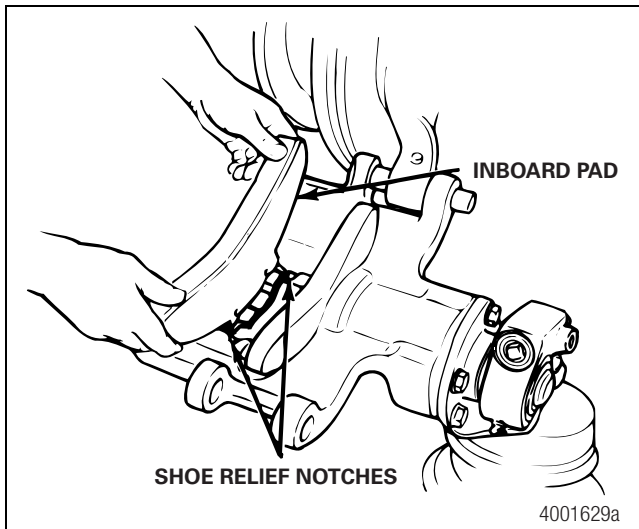

Figure 10.10
13. Remove the outer pad first. Press down on the edge of the pad to compress the clip. Slide the pad over to the notches. Lift the pad out of the caliper. Repeat this step to remove the inner pad. Figure 10.10.